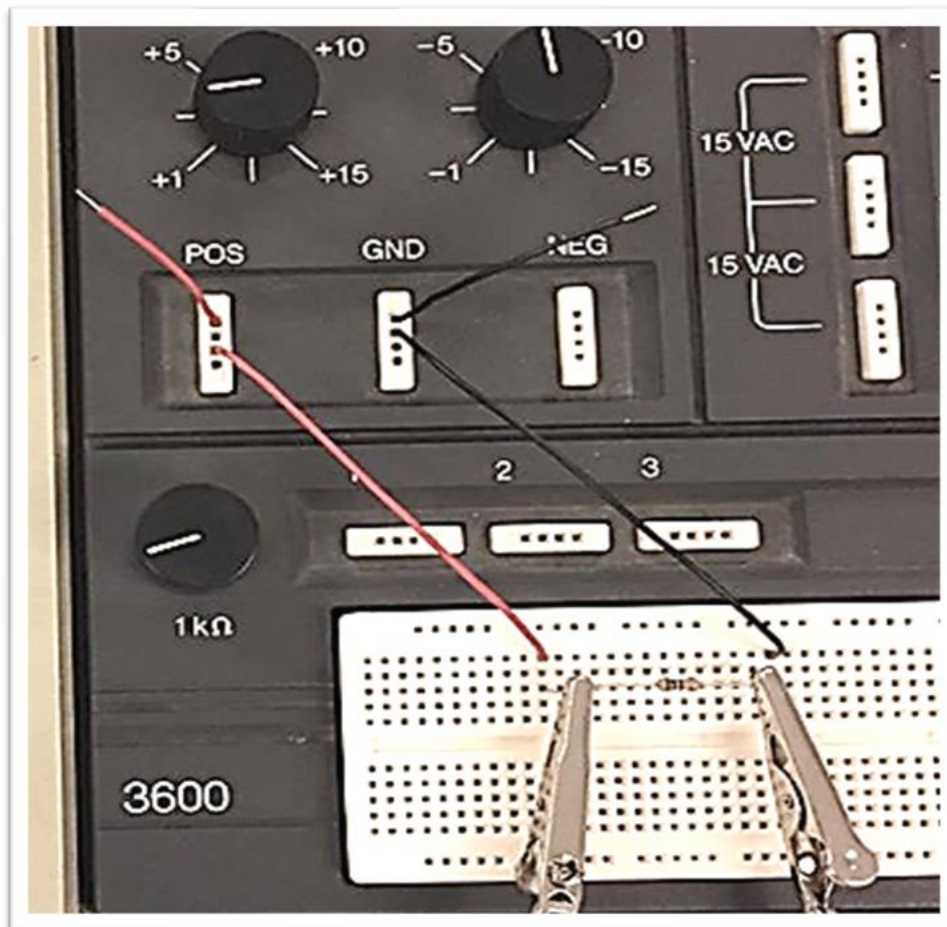

Fig. 4: How to measure V_R
- 4- For each value of V_s measure the voltage across the resistor (V_R) and the current through the resistor (I_R) and record them in **Table I (Figs. 4 & 5)**.